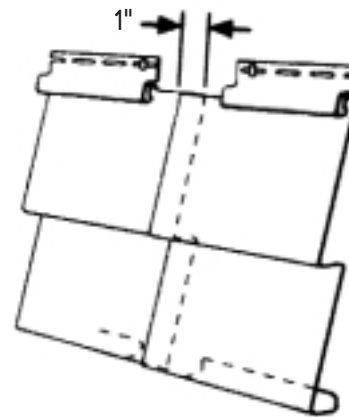

Figure 35.
- When panels overlap, make sure they overlap by one half the length of the notch at the end of the panel, or approximately 1" (Fig. 35).